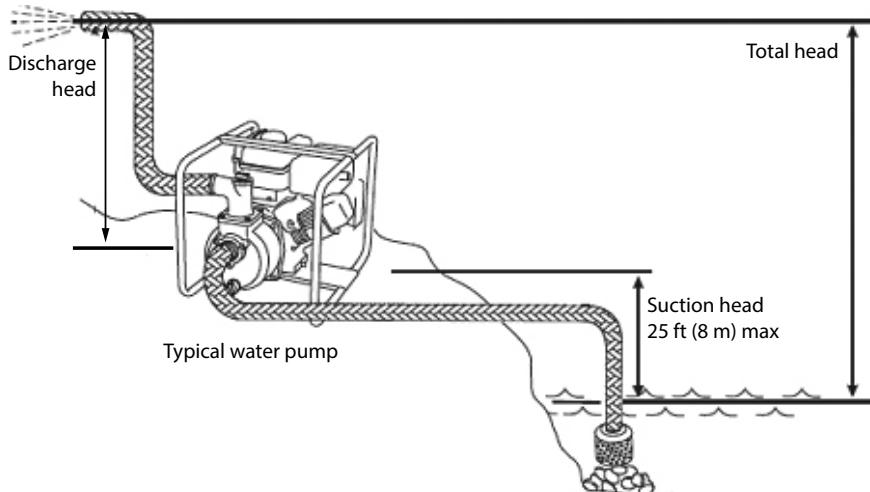

FIGURE 1
**Use this pump for water only,** where the vertical suction head from the water level is 25 ft (8 m) or less. Do not exceed the maximum suction head. Head refers to the height of a column of water that can be delivered by the discharge of the pump (Figure 1). Suction head (or suction lift) is the vertical distance between the center of the pump and the surface of the liquid on the suction side of the pump. Discharge head is the vertical distance between the pump's discharge port and the point of discharge. Total head is the sum of the suction head and the discharge head. The elevation above sea level and friction losses must be taken into consideration.